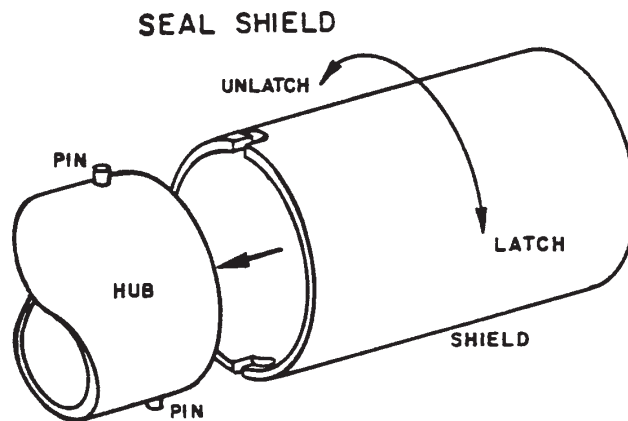

Figure 4.1
- d. Remove the feed screw by unscrewing (CCW) from the drive shaft (7).
- e. To remove the optional seal shield, turn the shield clockwise and pull free of the pins (see Figure 4.1). Reinstall in reverse order.